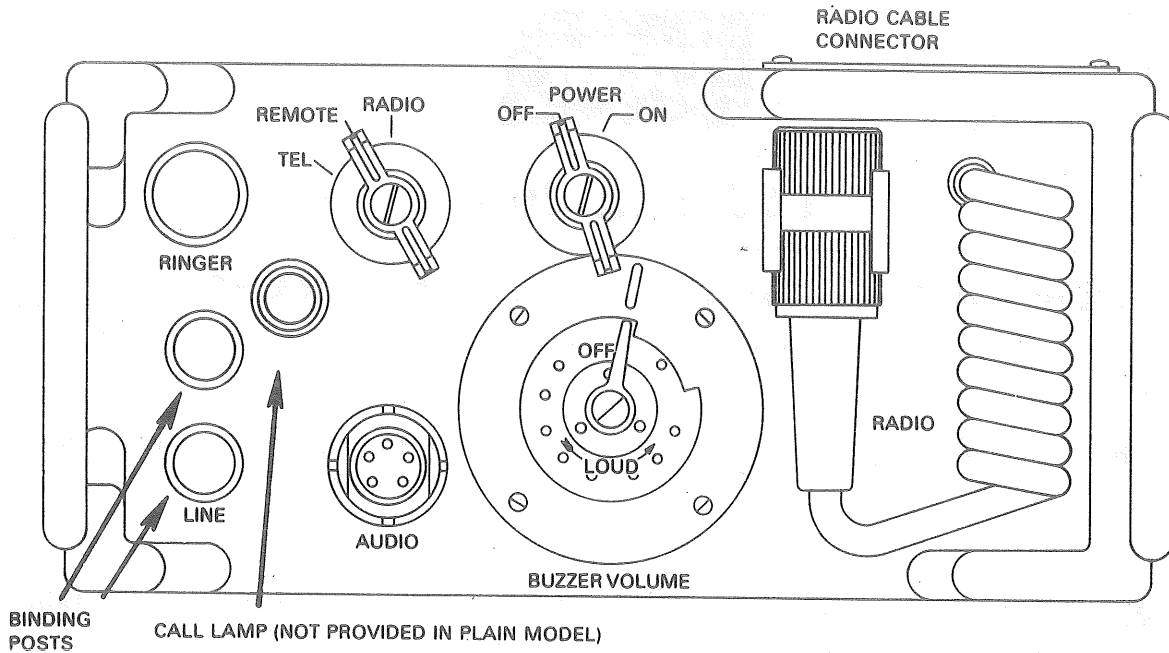

Figure 1. Local Control C-2329(*)/GRA-39, controls, indicator, and connectors.
a. Local Control C2329(*)/GRA-39. (Refer to fig 1, and TM 11-5820-477-12, para 3-3a and 3-4a.)
- (1) Turn the POWER switch to ON.
- (2) Turn the BUZZER VOLUME control to approximately midrange.
- (3) Connect a handset to the audio connector of the local control.